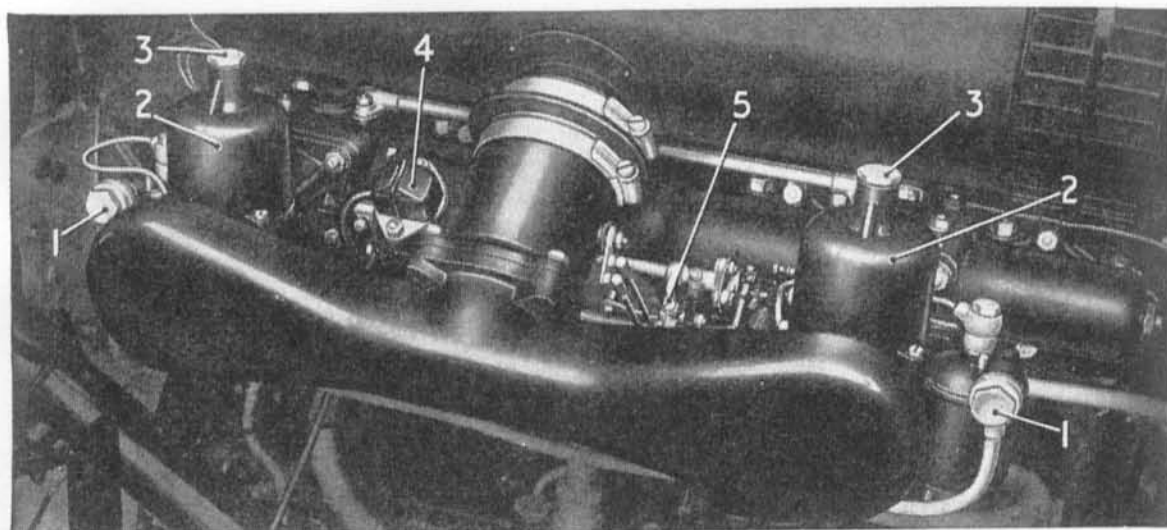

Fig. 13.—CARBURETTERS IN POSITION ON ENGINE.
Removal is effected by unscrewing the two union nuts (1, Fig. 13). The filter gauzes can then
Two carburetters of the conventional S.U. type are fitted as shown in Figs. 13 and 14, one being shown in section to illustrate the principal parts.
Every month, as directed on page 32, the oil reservoir cap nut (3) (Fig. 13), should be unscrewed and the plunger withdrawn, *great care being taken to avoid damage to the plunger rod by bending*; the reservoir should be topped up, if required, with the recommended oil, so as to maintain the level of the oil to the top of the guide rod only. The plunger should then be replaced, taking care that no dirt or grit is present. A slight steady pressure may be required to displace the oil sufficiently to allow the engagement of the thread of the oil reservoir cap nut.
The quantity of mixture for slow running is determined by means of an adjustable screw stop on the front carburetter (5, Fig. 13) which limits the closing movement of both throttles. This is so adjusted that the engine will idle slowly but reliably when the accelerator pedal is released, no hand control being provided.
1. The quantity of mixture for slow running is determined by means of an adjustable screw on the front carburetter (5, Fig. 13) which limits the closing movement of the synchronised throttles.